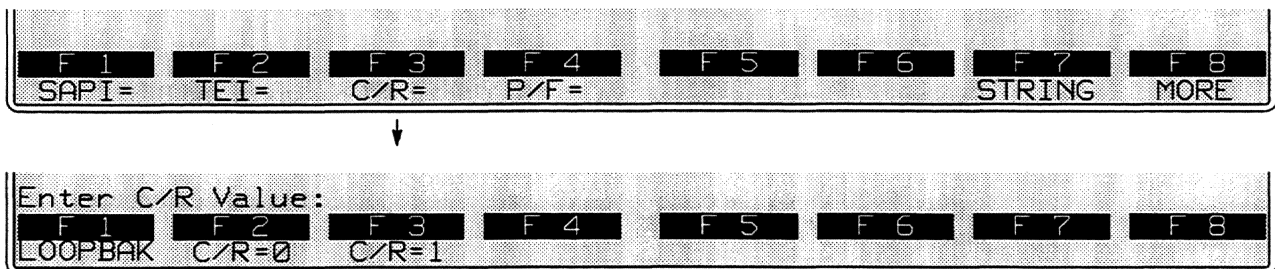

Figure 43-22 The correct Command/Response bit will depend on the logical emulation.
8. *Command/response bit*. The C/R bit may be specified for all frame types. The logical DTE uses C/R 0 for INFO frames and other command frames, and C/R 1 for responses. The logical DCE uses C/R 1 for INFO frames and other commands, and C/R 0 for responses. Since the response bit echoes the command bit, a C/R= LOOPBACK selection is provided (see Figure 43-22).